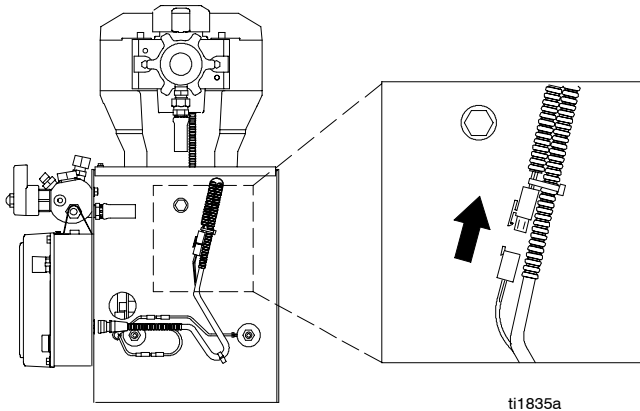

Fig. 2
- Fig. 2. Disconnect gallon counting sensor.